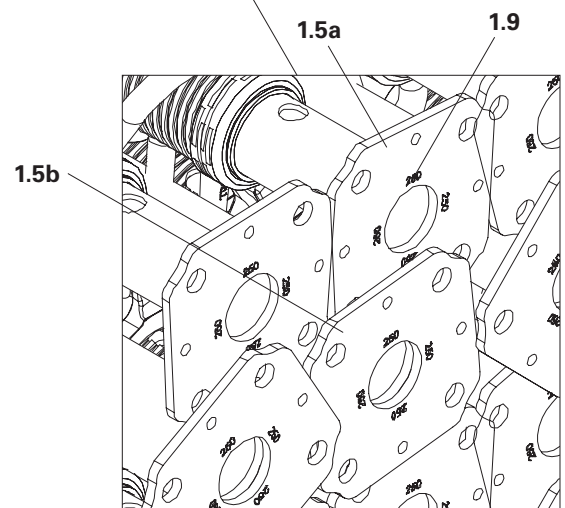

Fig. A5.01a
- End plates of the Inner Tubes (1.5a) must lie within the end plates of the Outer Tubes (1.5b). In this way, the Inner Tube is prevented from sliding out. (Fig. A5.01a)
(Fig. A5.01a)